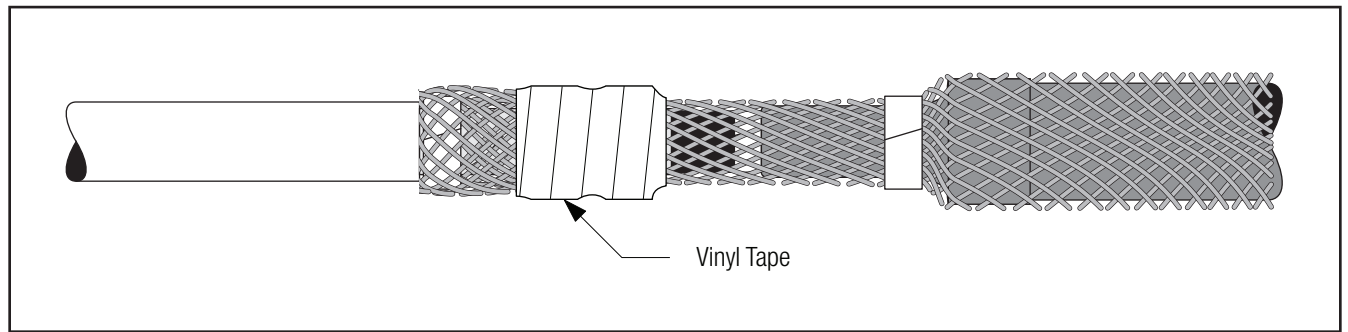

Figure 24
6.2.3 Wrap two layers of stretched vinyl tape over springs (*Figure 24*).